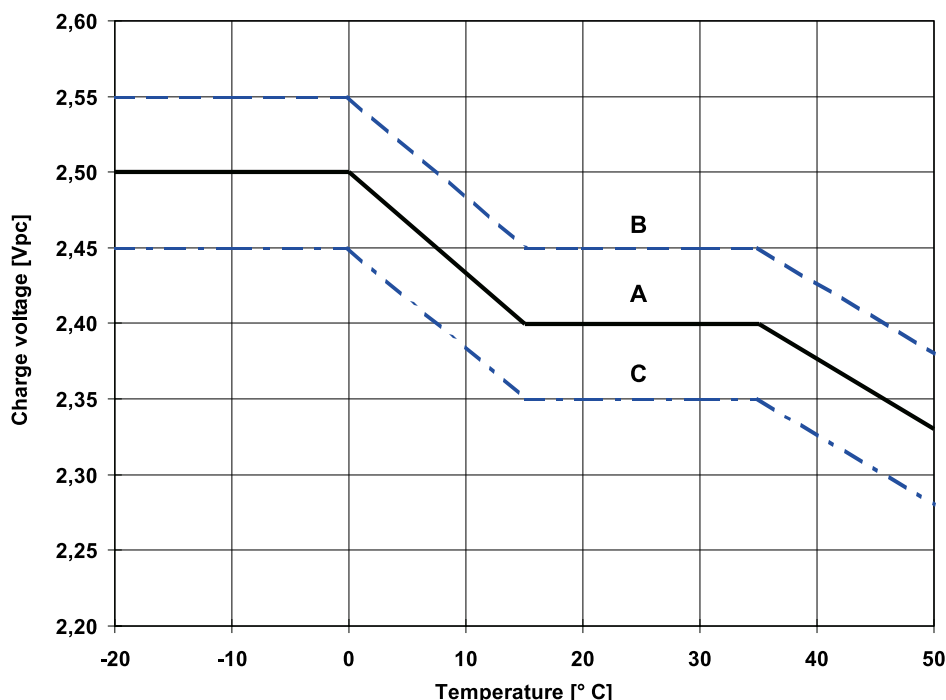

Fig. 1: Charge voltage vs. temperature for solar mode. Charge modes:
Recommended charge voltages for cyclical application: See fig. 1 and item 2.8.
I-phase = up to voltage acc. to fig.1 at 20 °C
I-phase = up to voltage acc. to fig. 1 at 20 °C
When recharging acc. to fig.1 the actual value of the alternating current is occasionally permitted to reach 10 A (RMS)/ 100 Ah C_{10} -capacity. In a fully charged state during float charge the actual value of the alternating current must not exceed 5 A (RMS)/ 100 Ah C_{10} -capacity.
The temperature related adjustment has to be carried out acc. to fig. 1. An adjustment of the charge voltage must not be applied within a temperature range 15 °C to 35 °C.